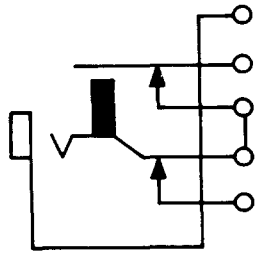

Fig. 15—484C Jack
**2.10 484C**: This single-mounted jack (Fig. 15) is intended to be mounted with the springs in a vertical plane. This jack is designed to be used with the 347 or similar-type plugs. The 484C jack replaces the 216G jack.